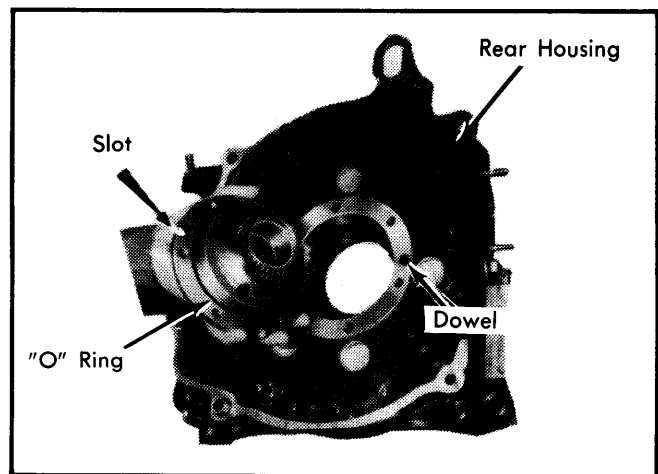

Fig. 8 Stationary Gear Slot & Dowel Alignment
7) Place stationary gear in a press, use same mandrel and press main bearing out of stationary gear. Install new bearing while aligning tang of bearing with slot of stationary gear. Press bearing into gear until adapter of mandrel just contacts stationary gear flange. Drive stationary gear into housing gear flange, (Fig. 8). Tighten stationary gear retaining bolts.